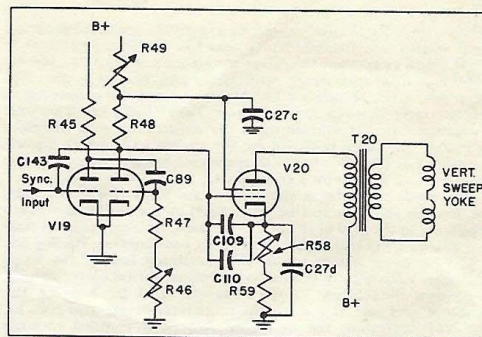

Fig. 8. Vertical M.V. and Sweep Output
7. VERTICAL MULTIVIBRATOR AND SWEEP OUTPUT (SEE FIGURE 8)—The vertical sawtooth voltage is generated by a Type 6SN7GT tube, V19, connected as a multivibrator. This voltage is coupled directly to a Type 6V6G vertical sweep output tube, V20, and then to the vertical sweep coils through the impedance-matching transformer, T20. Vertical speed is controlled by changing the time constant of the multivibrator grid circuit by the potentiometer, R46. Sweep size is changed by the potentiometer, R49, which changes B+ voltage applied to the charging network of tube V19 simultaneously with the screen voltage on tube, V20. Vertical linearity is controlled by a correction voltage developed in the cathode of V20 being fed back through C92 to